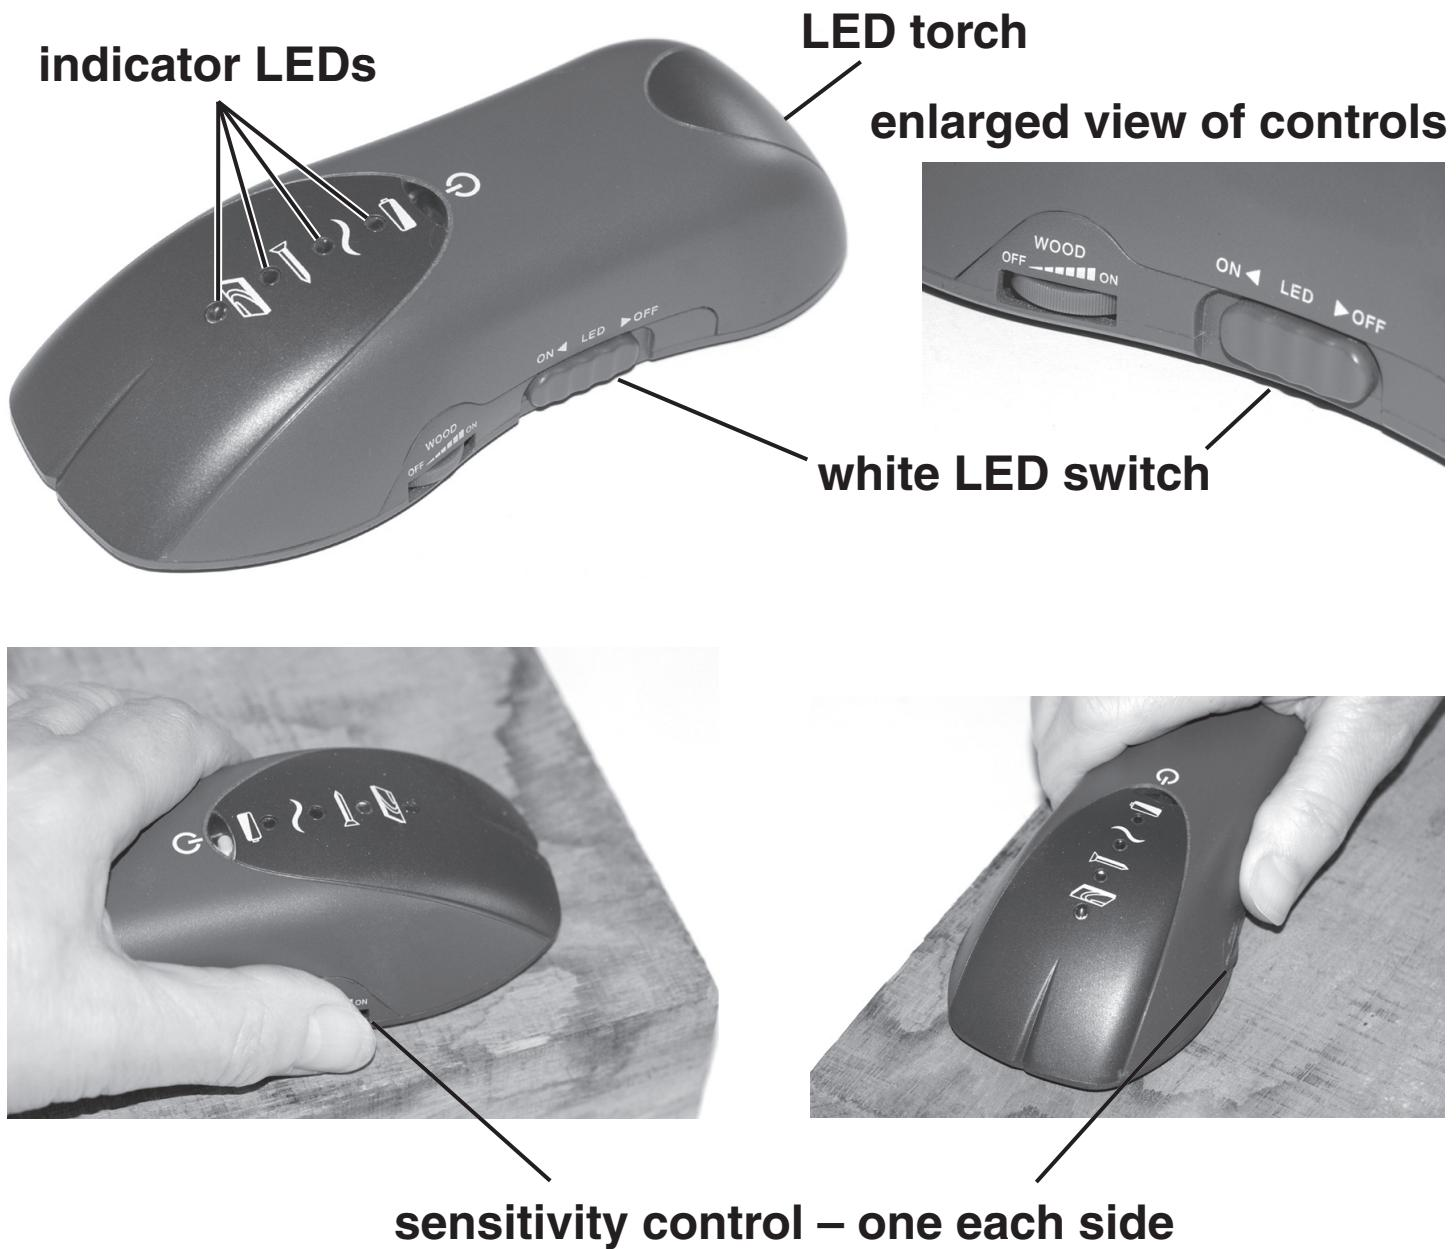

Fig. 4
- 2 Fig. 4 shows a hand held detector used for finding concealed mains cable, other metals and timber framing.
- (ii) State why the symbols next to the indicator LEDs and controls in Fig. 4 must have been applied after the moulding had taken place.**